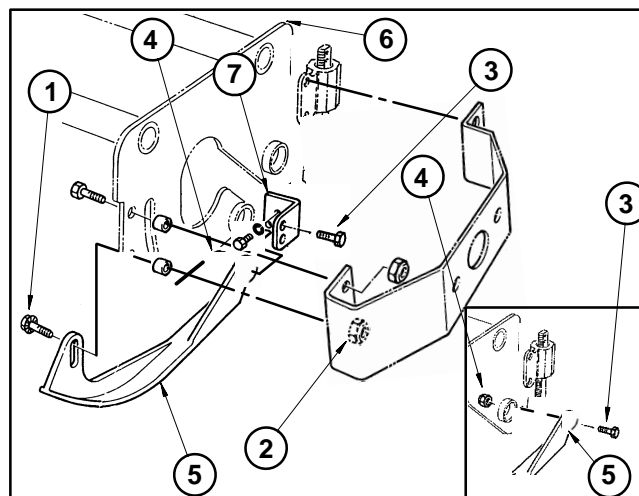

Figure 12
B. The skid is adjusted by loosening cap screws and lock washers securing the skid to the side plate and skid bracket. On some units, the rear of the skid may be mounted to the side plate with a spacer (Fig. 12).